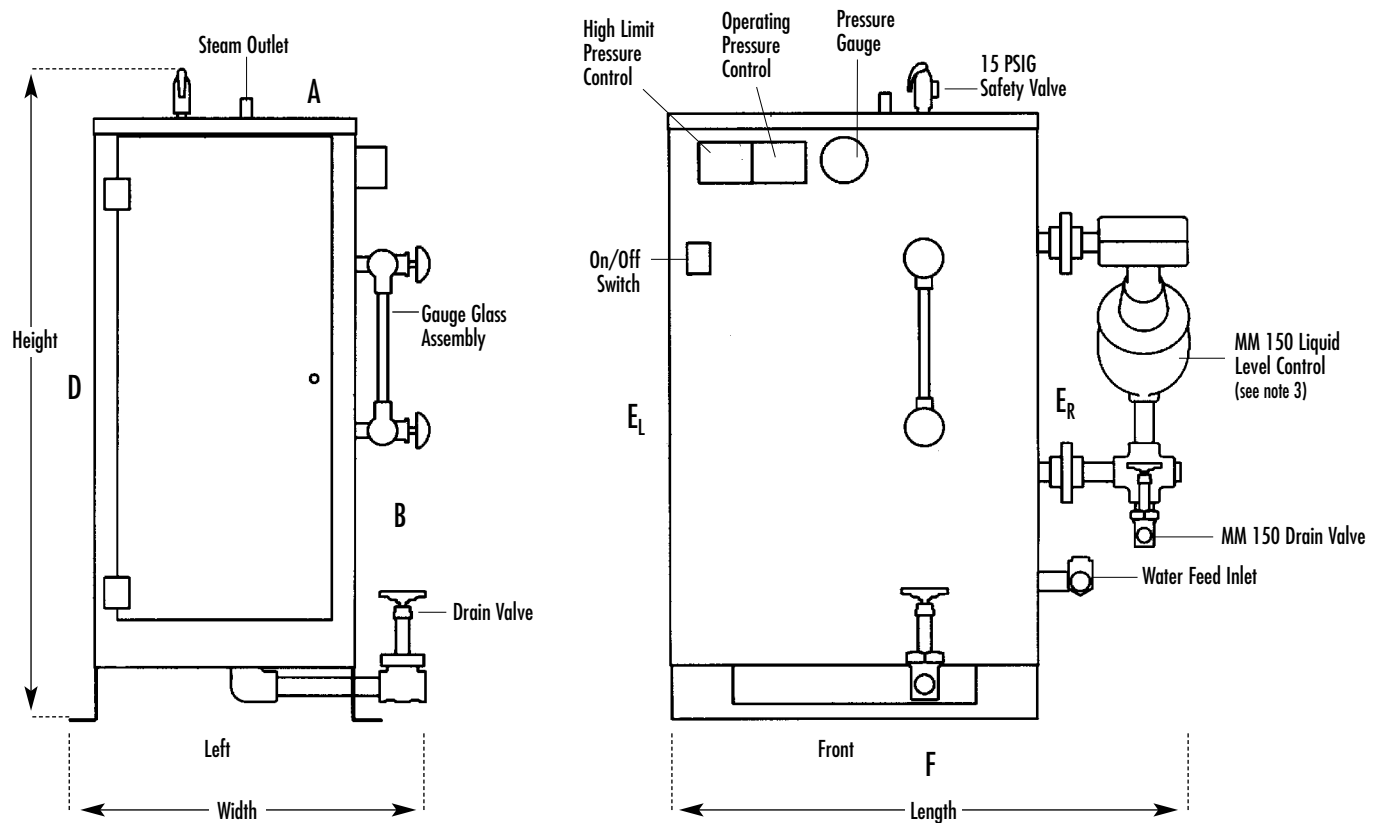

Figure 2:
NOTES for Figure 2:
4. **IMPORTANT: Minimum clearance from combustibles surfaces.** Refer to Fig. 2 above for legend.